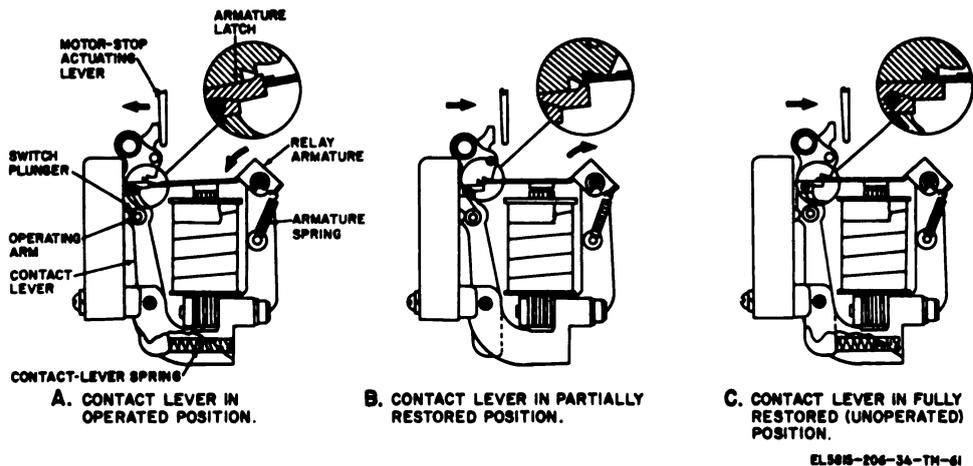

Figure 2-61. Positions of TT-4B/TG contact lever.
(a) The operating arms of the TT-4B/TG, TT-4C/TG, TT-335/TG, and TT-537/G (fig. 2-60 and 2-61) push the plungers of switches S5 and S6, and cause the circuit through each switch to open. Switch S6 is in series with the motor (fig. FO-2) and the motor stops. Switch S5 opens to remove a short circuit across the motor-stop relay, and the signal circuit current flows through the relay. The energized relay pulls the relay armature downward (A, fig. 2-61) to lock the contact lever in the operated position (away from the relay) until the motor start operation occurs (*c* below).
c. **Starting Motor.** Depression of the BREAK switch at any of the interconnected teletypewriters opens the signal circuit (fig. FO-1 and FO-2) and the motor-stop relay of each page printer is deenergized. The armature spring (fig. 2-61 and 2-63) pivots the armature upward and the contact lever moves slightly toward the restored position (position before motor-stop operation) (B, fig. 2-61 and 2-63). When the BREAK switch is released, the motor-stop relay is energized again. The armature moves downward and the contact lever moves to the fully restored position (C, fig. 2-61).
(1) The plungers of the TT-4B/TG, TT-4C/TG, TT-335/TG, and TT-537/G, and switches S5 and S6
| <p>fore blank portion of type bar strikes platen; nothing printed.</p> | <p>moves contact lever to operated position (A, fig. 2-61 and 2-62); motor circuit opened to stop motor; short circuit across motor-stop relay remove to energize relay; energized relay holds contact lever in operated position.</p> |
- 14 Contact lever moved slightly toward restored position (B, fig. 2-61 and 2-63).